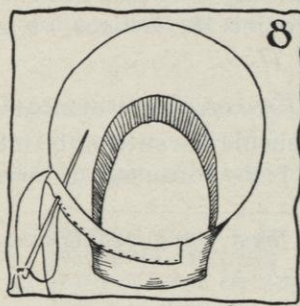

FIG. 8.
- (4) Turn the binding toward you so that you can watch where the stitch is to go, and at exactly that point (see Section (3)) take a tiny stitch right back through the selvage, the brim, and the selvage on the opposite facing of the brim (see Figure 8).